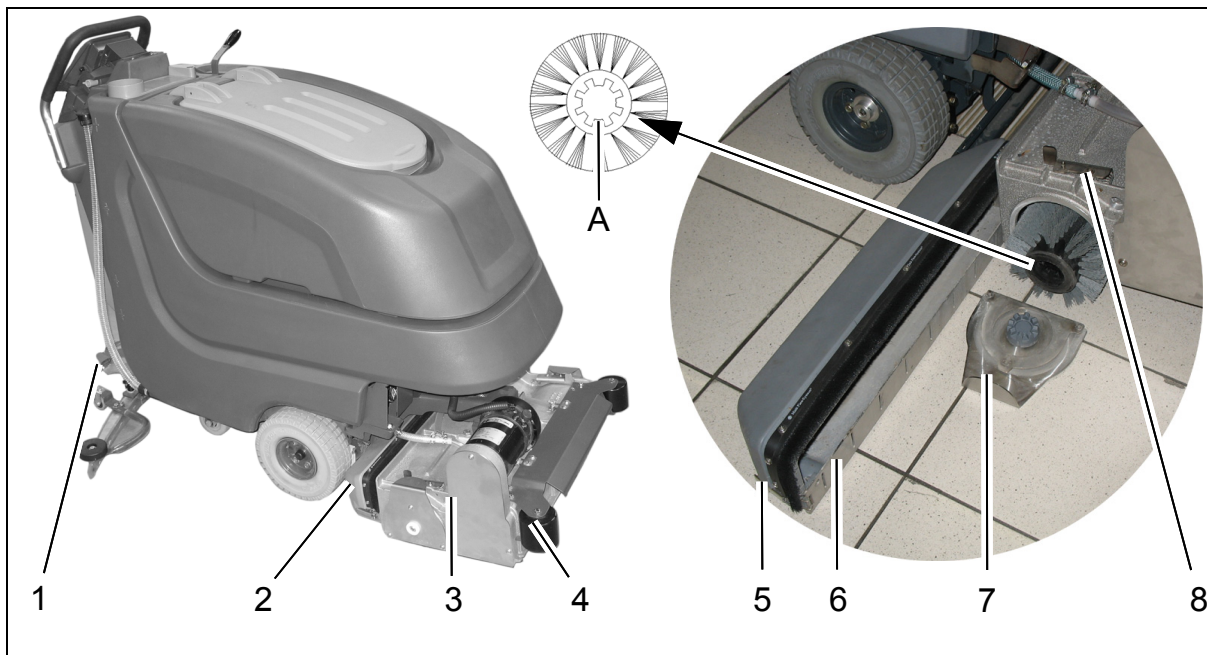

Fig.11
Clean dirt hopper (Fig. 11/2) at daily intervals or as required.
Remove dirt hopper from the right machine side (seen in direction of travel). Use quick-release (Fig. 11/5) to loosen feed inlet (Fig. 11/6) and clean dirt hopper.
1. Lift up cylindrical brush deck (Fig. 11/3) by pedalt (Fig. 11/1).
2. Release brush seating (Fig. 11/7) by locking lever (Fig. 11/8).
Check roller bumpers (Fig. 11/4) at weekly intervals and replace if required.